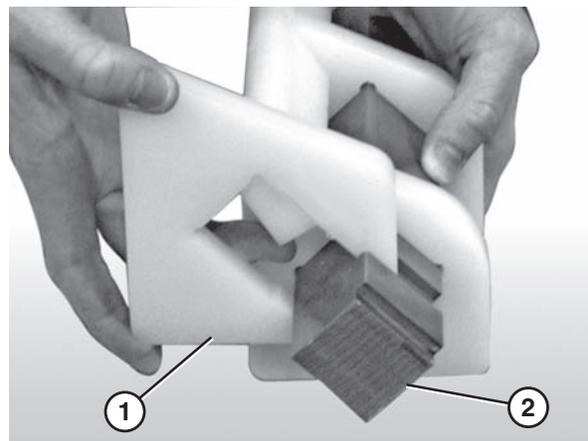

Figure 69
- Attach the nose bar tracking pucks (Figure 69, item 1) to the nose bar drive post (Figure 69, item 2).